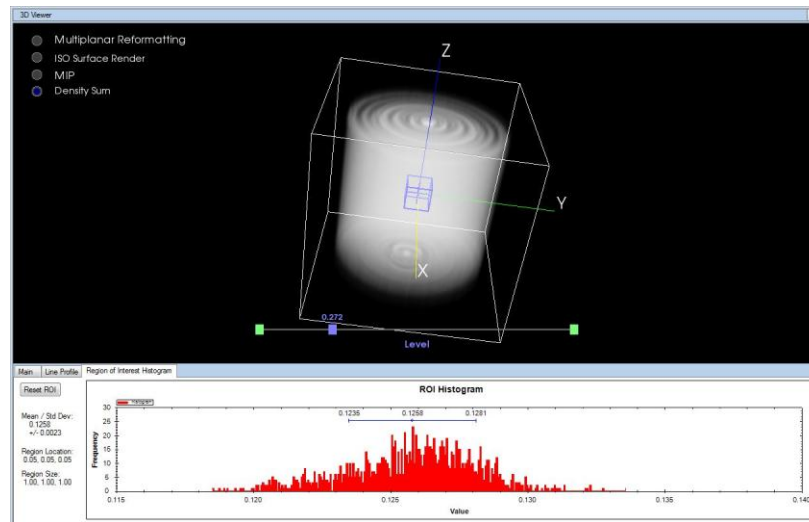

Figure 3: ROI and histogram display in 3D Viewer
16. Use the Region of Interest (ROI) Histogram feature to make measurements of the attenuation coefficient by selecting the **Region of Interest Histogram** tab on the 3D Viewer. The default ROI cube should be centered in the 3D image and have a size of 1 cm^3 (as shown in Figure 3). Reset the ROI if required. Use this size and position for all measurements.